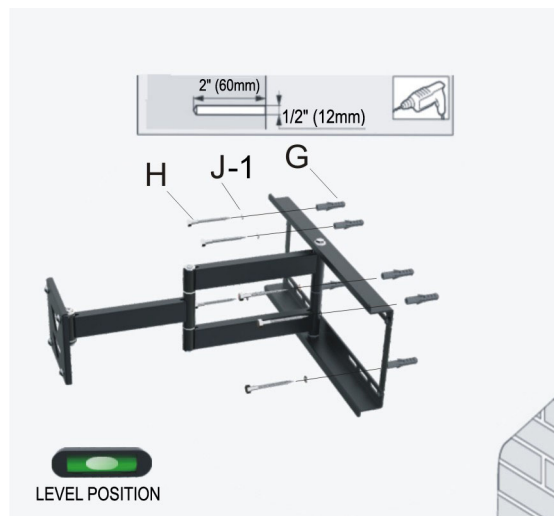

Figure 4
2. Mark six holes to be used for securing the mount, and place the wall plate aside. Locate the holes directly into the concrete or brick, never into the mortar between the blocks (Figure 4).
4. Insert a concrete anchor (G) into each hole.
7. Insert bolts (H) and washers (J) into the concrete anchor as shown (Figure 4) and tighten. Do not fully tighten until all bolts are in place.